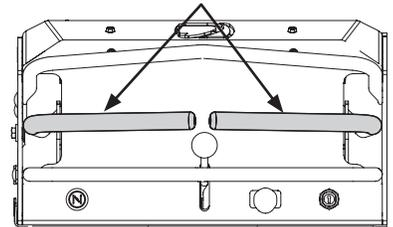

Figure 10
1. Ensure the RH and LH drive control levers are in the neutral position and the parking brake is disengaged (Figure 10).